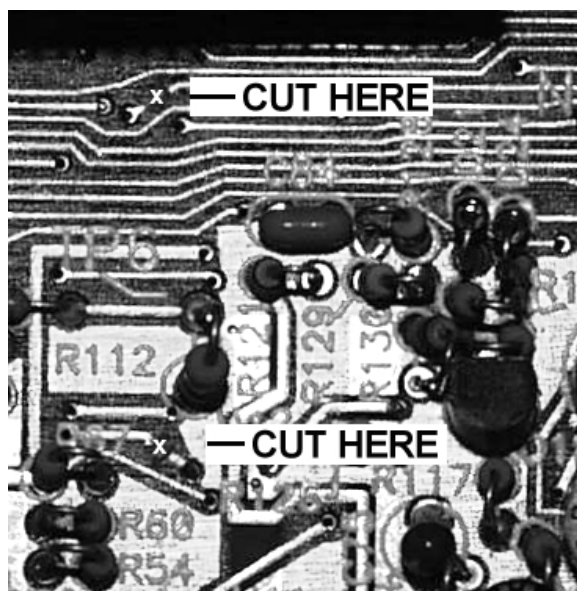

Figure 2 - DFR-1000 IF Board
- 15__ Using an X-ACTO knife or similar sharp-bladed instrument, carefully cut the two PC board traces at the locations indicated by the two "X" marks in Figure 2. Be sure to remove any resulting debris and carefully inspect the cuts to verify that the traces have been completely severed.